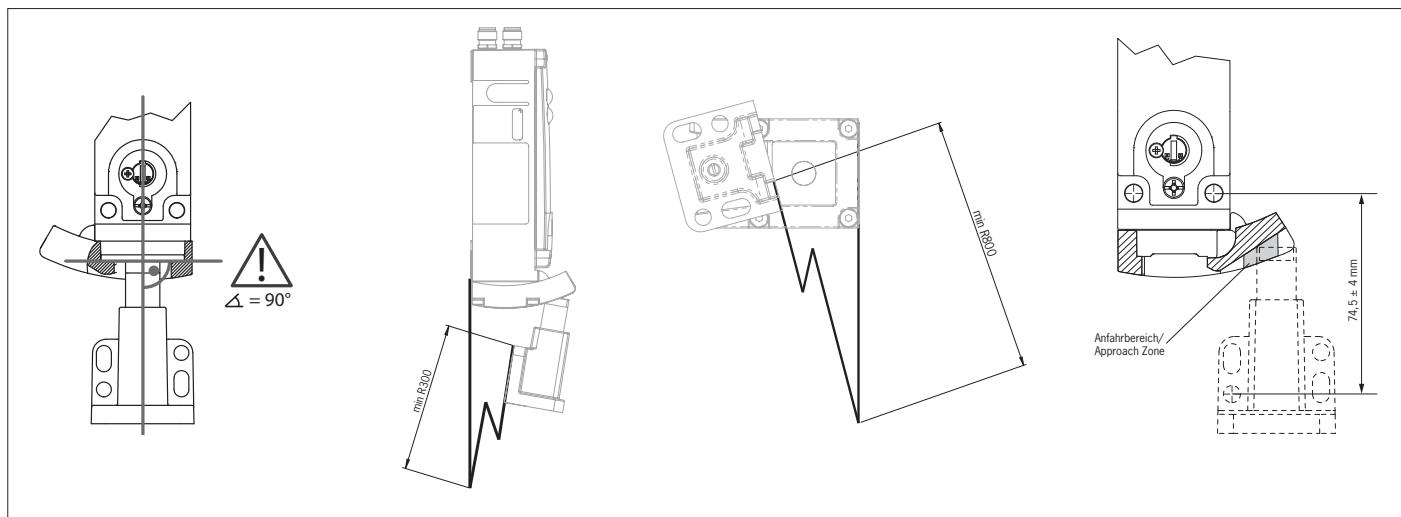

Figure 3: Door radii and approach zone
- Observe the min. door radii (see Figure 3).
- the active faces of the actuator and the safety switch are parallel to each other (see Figure 3).
- the actuator is fully inserted into the switch recess when the safety guard is closed (see Figure 3).